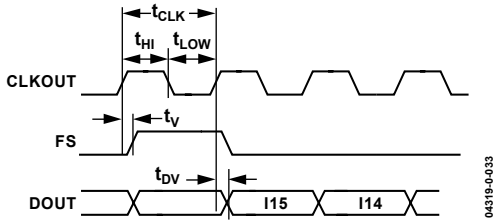

Figure 34. SSI Timing Parameters for SSI Timing
Figure 33 illustrates the output timing of the SSI port for several SSI control register settings with 16-bit I/Q data, and Figure 34 shows the associated timing parameters. Note that the same timing relationship holds for 24-bit I/Q data, with the exception that I and Q word lengths now become 24 bits. In the default mode of operation, data is shifted out on rising edges of CLKOUT after a pulse equal to a clock period is output from the frame sync (FS) pin. As described above, the output data consists of a 16-bit or 24-bit I sample followed by a 16-bit or 24-bit Q sample, plus two optional bytes containing AGC and status information.
In Figure 34, the timing parameters also apply to inverted CLKOUT or FS modes, with t_{DV} relative to the falling edge of the CLK and/or FS.